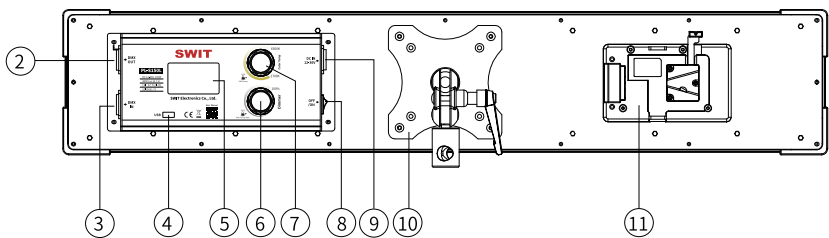

Fig.4 PL-S150L Back View
Rotate Dimmer/Color knob(Fig.4 ⑥/⑦)to adjust the intensity and color temperature, the setting range are below:
Long press Color adjustment knob(Fig.4 ⑦)to change the light to DMX communication mode(See Fig.5), long press Dimmer adjustment knob (Fig.4 ⑥)to enter into DMX address setting interface(See Fig.7)for DMX address setting:
The black shading (Figure 7 ⑤) indicates that the current bit is selected. Turn the Dimmer adjustment knob (Figure 4 ⑥) to set the current bit, press the Dimmer adjustment knob (Figure 4 ⑥) to set the current bit and go to the next bit. When the last bit is set, press the Dimmer adjustment knob (Figure 4 ⑥) or wait for about 5s after stopping the operation to exit the setting of the communication address.
Press the Color adjustment knob (As shown in FIG. 4 ⑦) to make the current communication mode of the lamp set to Group communication mode (as shown in FIG. 8), and pass Dimmer
Enter the Group address setting interface (as shown in Figure 10) and turn the Dimmer adjustment knob to set the Group address. Press the Dimmer adjustment knob (As shown in Figure 4 ⑥) or stop the operation and wait for about 5 seconds to exit the communication address setting.
USB port (Figure 4 ④) is a reserved port, please use according to the specified environment of the company's related products, can not be used for other purposes, in order to avoid losses.